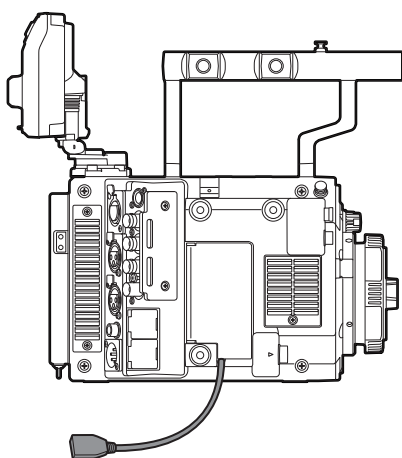

Fig. 3
- 3** Close the cover while the USB 2.0 extension cable runs through the groove in the cover. (Fig. 3)